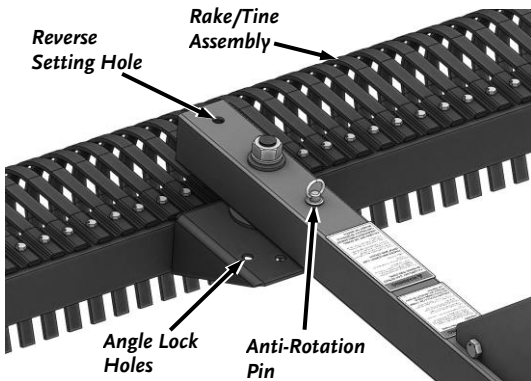

Figure 14
1. Remove the Hitch Clip that secures the Anti-Rotation Pin (**Figure 14**).